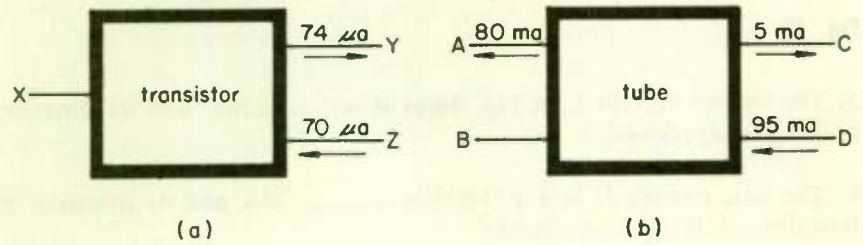

Fig. 11
2. Figure 11 shows the leads and part of the currents associated with a transistor and a pentode tube. The current in lead X is (a) _____ μ a, and it flows to the (b) (right) (left). The current in lead B is (c) _____ ma, and it flows to the (d) (right) (left).